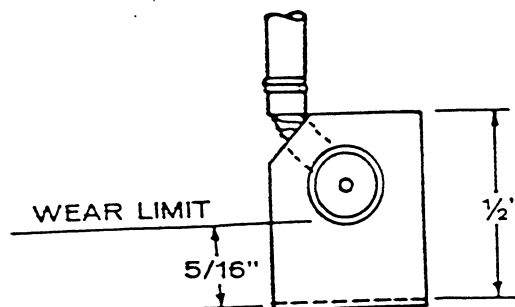

FIGURE 29. BRUSH INSPECTION FOR WEAR
When brushes are worn more than 3/8 in. they are to be replaced. Figure 29 shows the limit for wear. See that the brushes move smoothly in the brush holder.
5. When brush length becomes shorter than 3/16" it is no longer suited for use (see Figure 29). Always replace with genuine Onan parts.